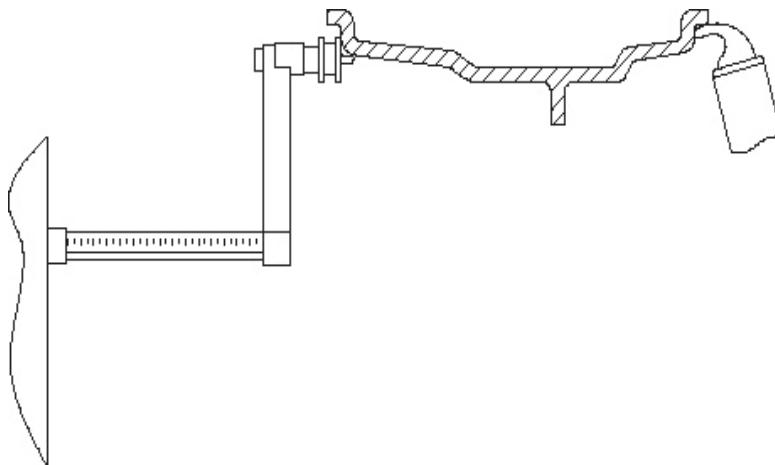

Fig. F3.6 – Automatic acquisition of parameters in STD and ALU1, 2, 3, 4, 5 modes.
- 2) Pull out the two measuring gauges at the same time to the positions shown in Fig. F3.6.